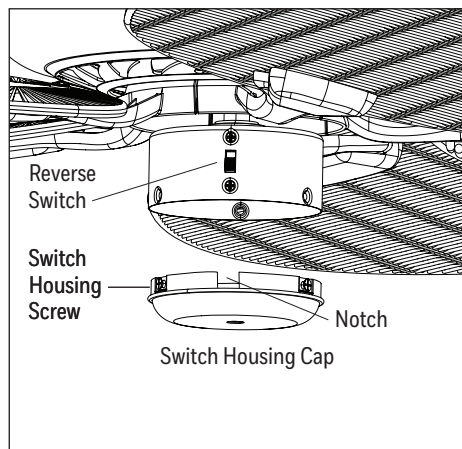

Figure 6.2
- Remove the three switch housing screws from the switch housing cap. Attach the switch housing cap to the switch housing using the switch housing screws. **Note:** Align the notch in the switch housing cap with the reverse switch on the switch housing (Figure 6.2).